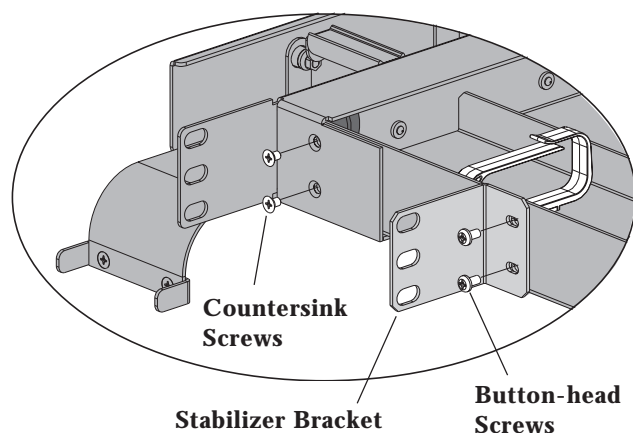
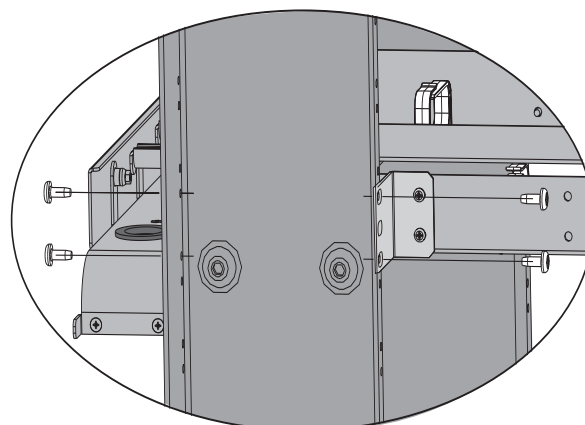

Figure 2
Figure 3
5.1 Attach the two trough pieces to the jumper management panel using the 6-32 countersink screws in the location shown in Figure 2.
5.3 To increase the stability of the troughs protruding out the back, stabilizer brackets are provided to secure the troughs to the back of the frame. Attach the brackets to the troughs with the 6-32 button-head screws (Figure 2). Then, attach the bracket to the frame in the same manner as the management panel is mounted to the front of the equipment rack (Figure 3).